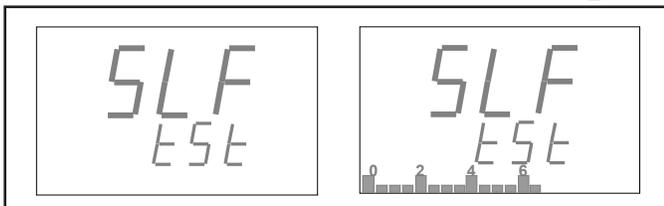

Figure 8. Test leads screen.
Test leads offer added impedance and may alter measurement results, especially at a lower scale. In order to take impedance of test leads into account, short the ends of the test leads together and press the Function button (F) until you see the screen shown in Figure 8. In a few seconds, this screen will disappear and you will hear a short beep. The SCS Ground Pro